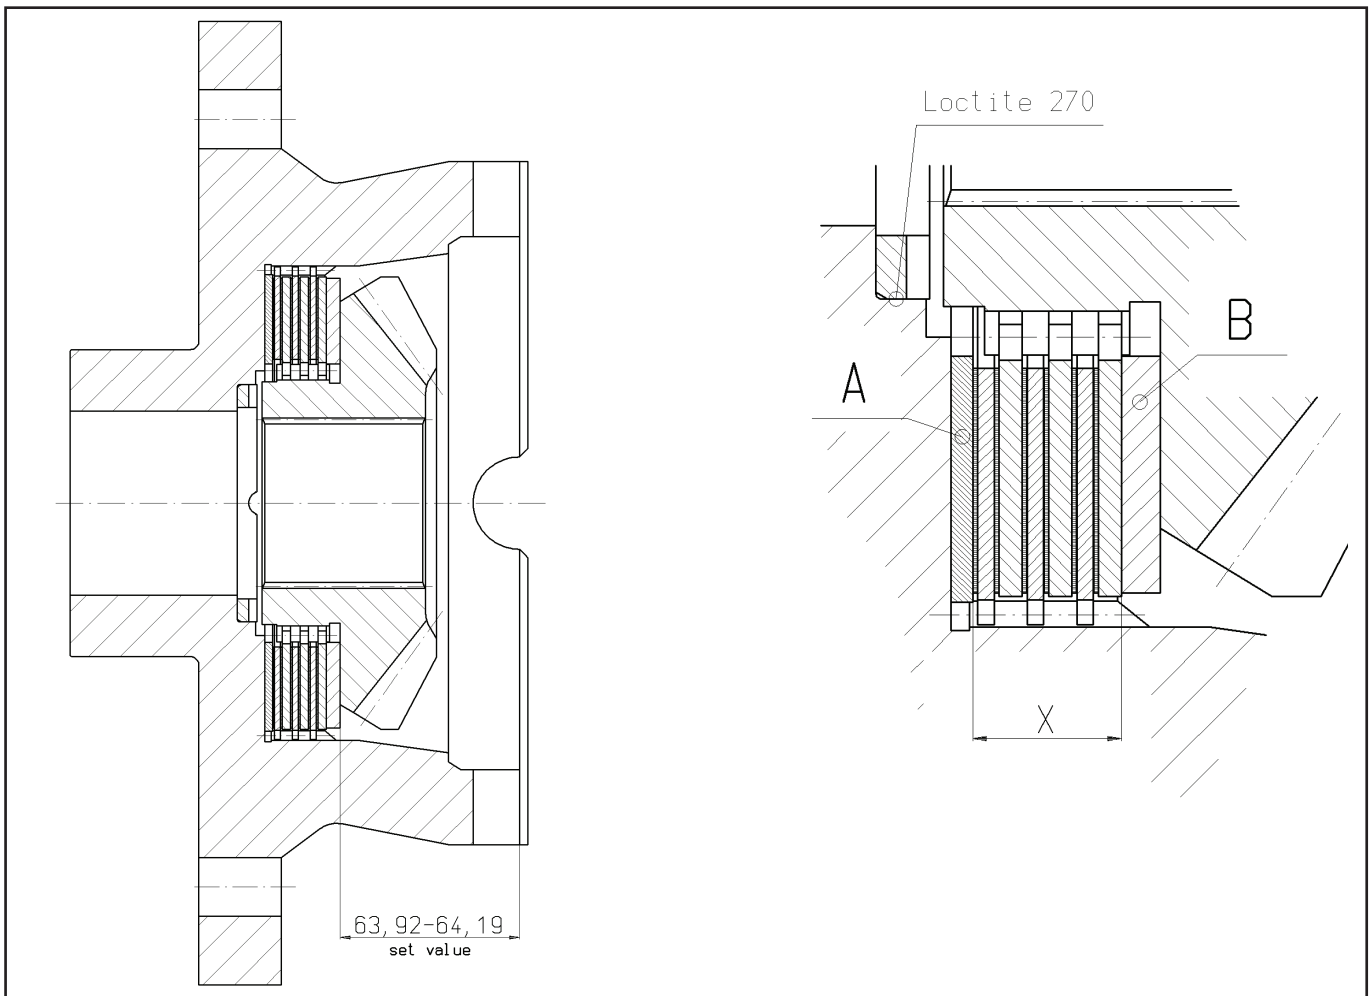

Figure 172
3. Install discs A and B according to the arrangement in (Figure 172).